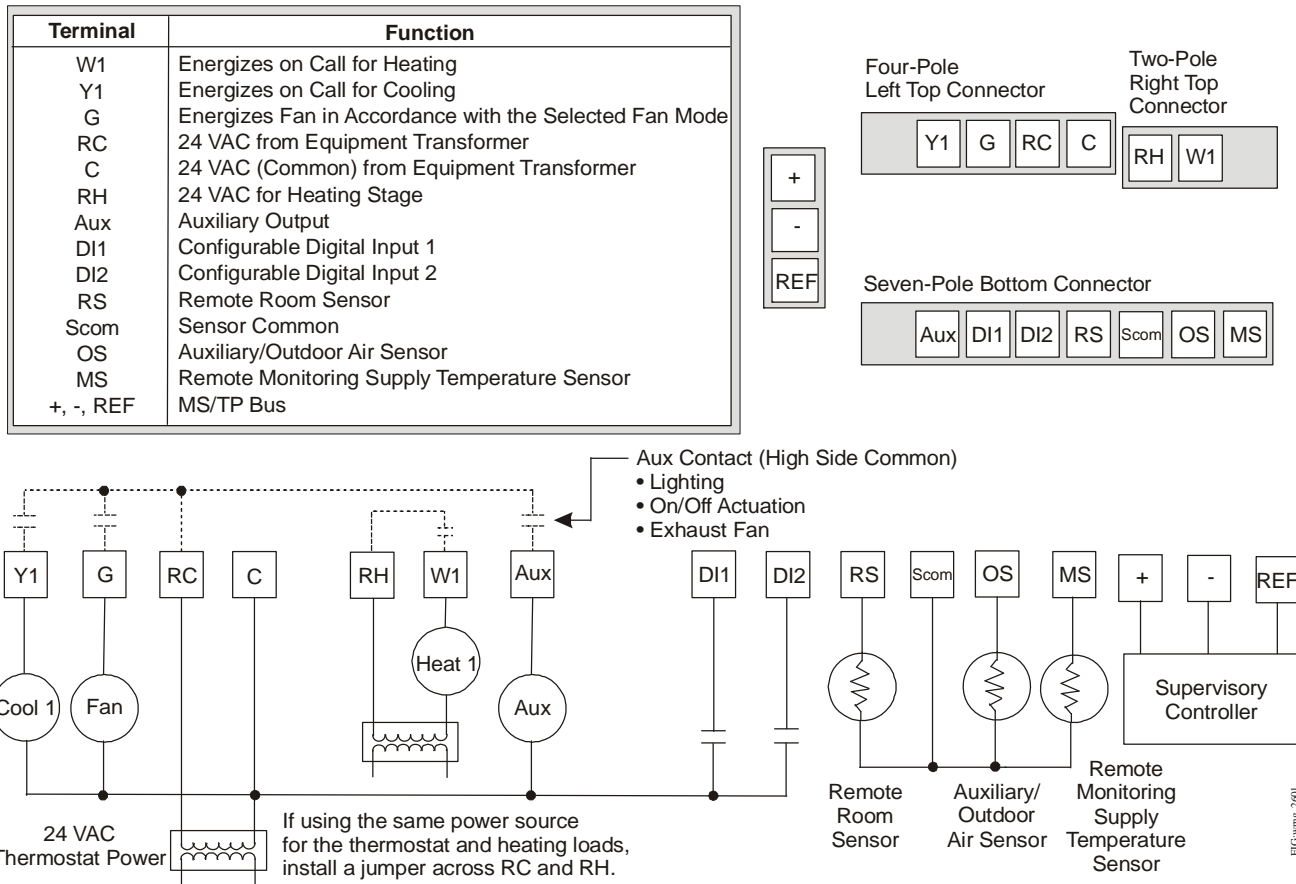

Figure 5: Wiring the TEC2601-4 or TEC2601-4+PIR Thermostat Controller
1. Strip the ends of each wire 1/4 in. (6 mm) and connect them to the appropriate screw terminals as indicated in Figure 5.